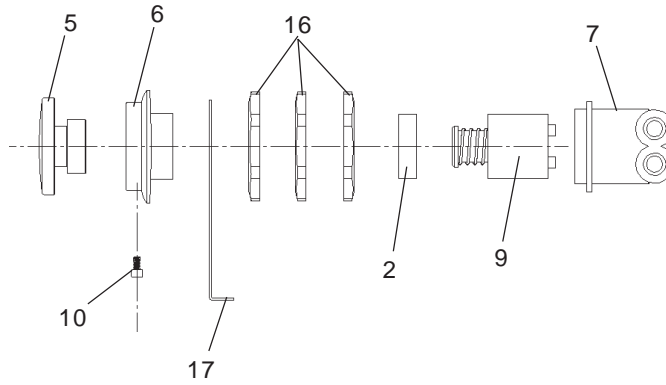

FIG. 11
8. **Check stream height from bubbler.** Stream height is factory set at 45-50 PSI. If supply pressure varies greatly from this, adjust the screw on regulator, item 9 by using a small screwdriver through the small hole in the push button item 5 (See Fig. 11). Clockwise adjustment will raise stream height and counter-clockwise will lower stream height. For best adjustment stream height should be approximately 1-1/2" (38mm) above the bubbler guard. (See Figure 13)